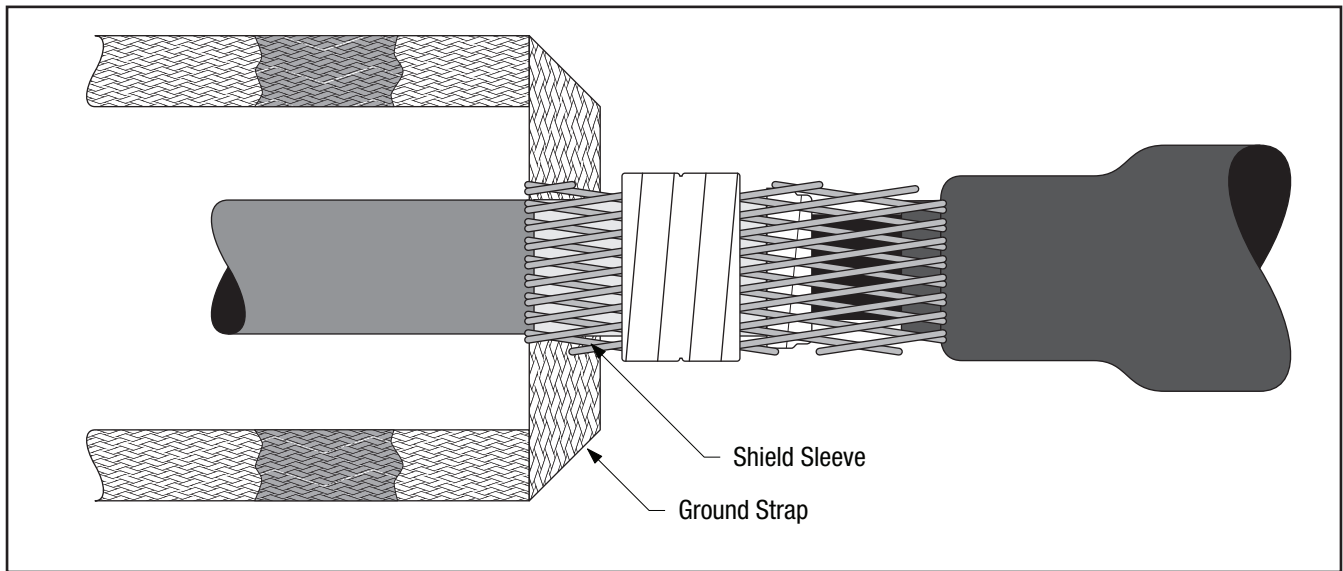

Figure 16
- 6.1 Wrap the ground strap around the shield sleeve with the tails toward the cable jacket (*Figure 16*). Ensure that the shield sleeve is over the tape, LC, or wire shield.